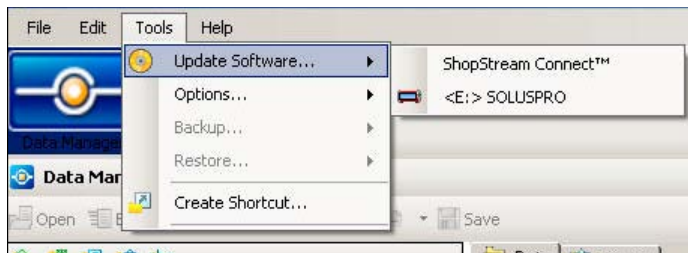

Figure C-10 Sample Update Software menu
- 6. Once ShopStream Connect opens; select Tools > Update Software > SOLUS PRO from the Menu bar (Figure C-10).